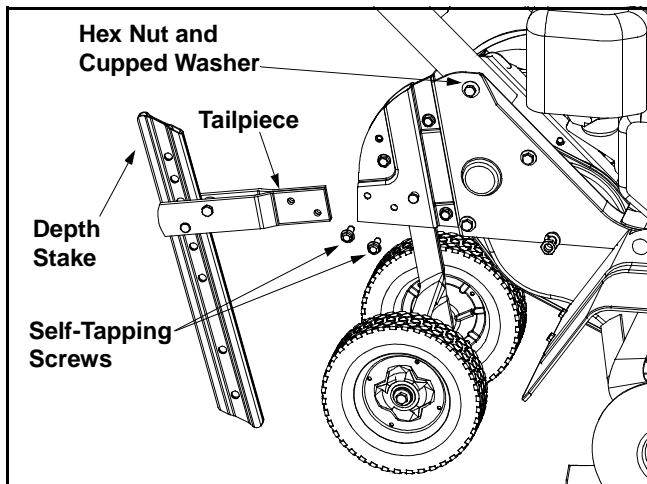

Figure 1
- Remove the two self-tapping screws on the frame and slide the tailpiece into the frame, with the lower hole in the tailpiece toward the front. See Figure 1.
- Remove the hex bolt and cupped washer from the top right side of the frame halves. Hold the cable guide bracket on the left side of the frame as it will fall when the bolt is removed. See Figure 1.